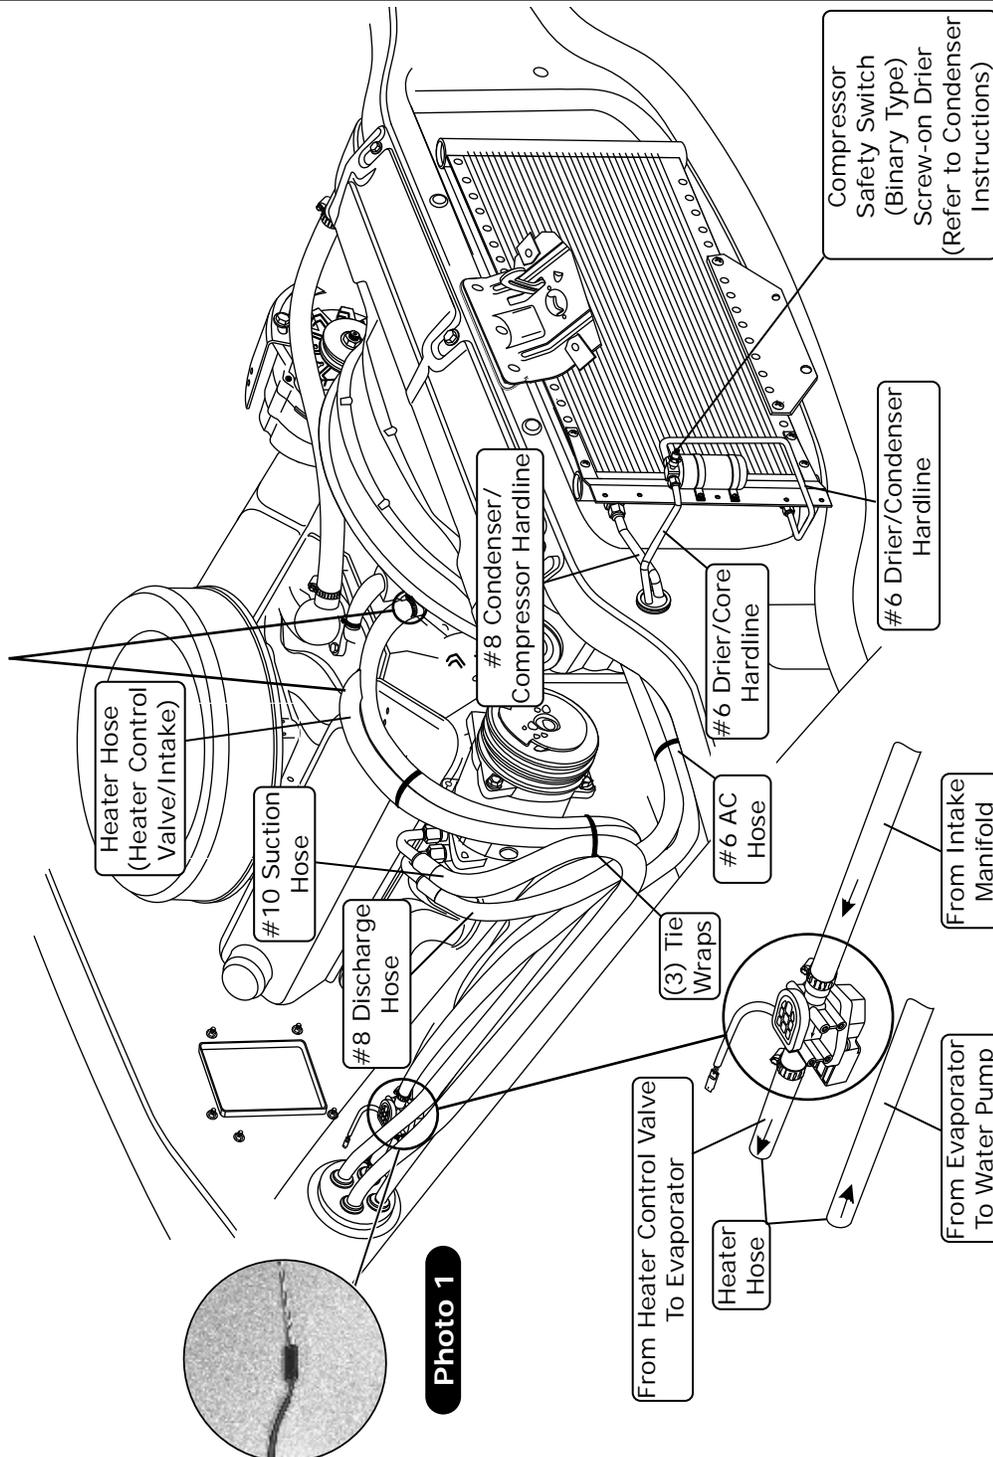

Figure 1
2. Route a piece of heater hose from the intake to the bottom heater fitting of the heater core as shown in Photo 2, Page 17, and Figure 1, below. **NOTE: Install the heater control valve in line with intake manifold (pressure side) heater hose. Secure it using hose clamps as shown in Figure 1, below. Also note proper flow direction.**